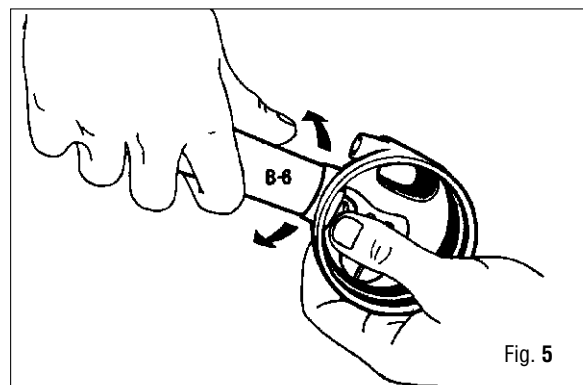

Fig. 5
15. Maintain outward pressure against the poppet housing 91 to prevent it from being displaced. Place O-ring 83 in its seat using Mares special tool (B-6). (See Fig. 5).